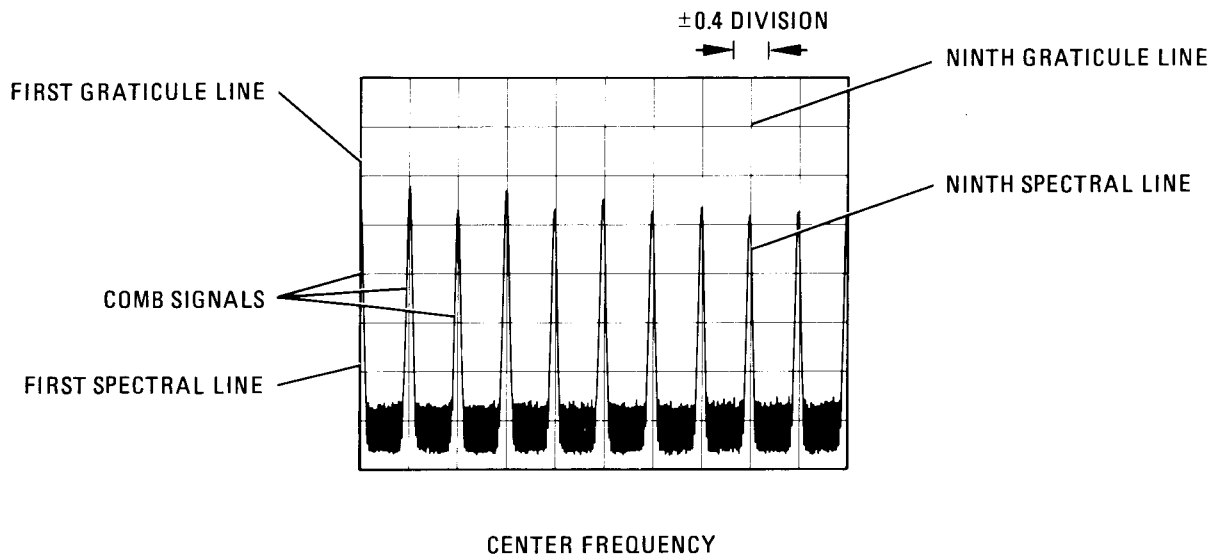

FIGURE 4-3. FREQUENCY SPAN ACCURACY MEASUREMENT FOR NINTH SPECTRAL LINE
6. Set comb generator **COMB FREQUENCY** – MHz for 10-MHz comb. Set spectrum analyzer **FREQ SPAN/DIV** to 20 MHz. Adjust **TUNING** control to position one spectral line on the first graticule line. Measure the error between 17th spectral line and ninth graticule line as shown in Figure 4-3. Error should be no greater than ± 0.4 division.